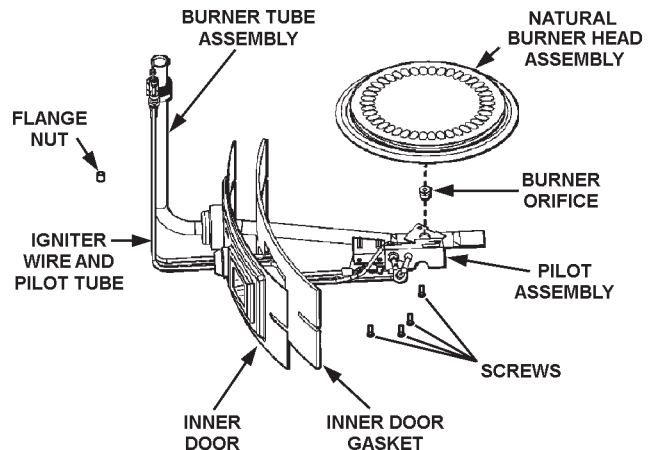

FIGURE 26.
16. Remove the two Phillips-head screws holding the propane burner head to the burner tube assembly, see Figure 26.
17. Using 3/8" boxed-end wrench remove the propane gas burner orifice "O" from the burner tube. Install the natural gas burner orifice and tighten securely, see Figure 26.
18. Locate and install the natural gas burner head to the burner tube using the two Phillips-head screws, see Figure 26.